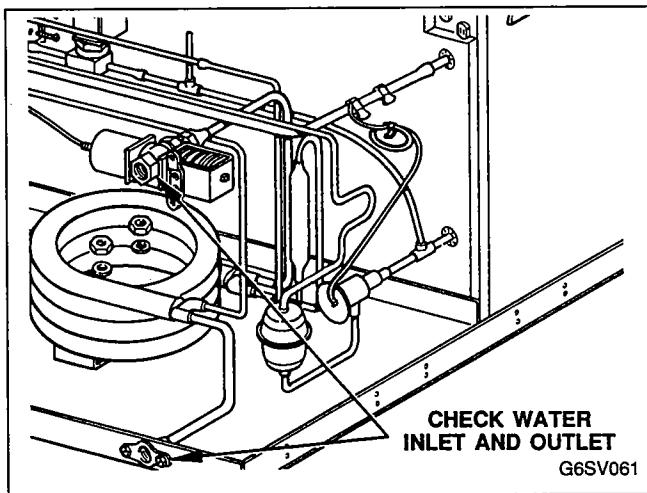

FIGURE 61. CONDENSER LEAK CHECK POINTS
7. Check condenser water inlet and outlet with electronic leak detector. If a leak is detected, replace condenser. See Figure 61.